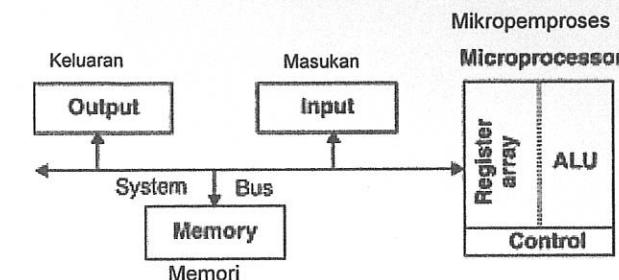

Figure B4 / Rajah B4
- (b) The microprocessor consists of THREE (3) segments (See Figure B4). Interpret each of the following segments in a computerized control system.